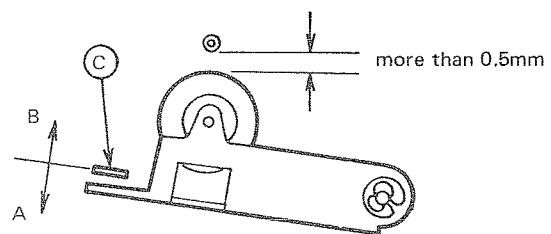

Fig. 25
- If the tape is projected from the cassette half at the beginning of cue action, adjust it by bending the part (C) of pinch arm lever to the A direction as shown in Fig. 25.
- If the tape is fast forwarded at the beginning of cue action, bend the part (C) to the B direction as shown in Fig. 25.
- If the tape is projected from the cassette half at the beginning of review action, bend the part (C) to the A direction as shown in Fig. 25.
- If the tape is fast forwarded at the beginning of review action, bend the part (C) to the B direction as shown in Fig. 25.